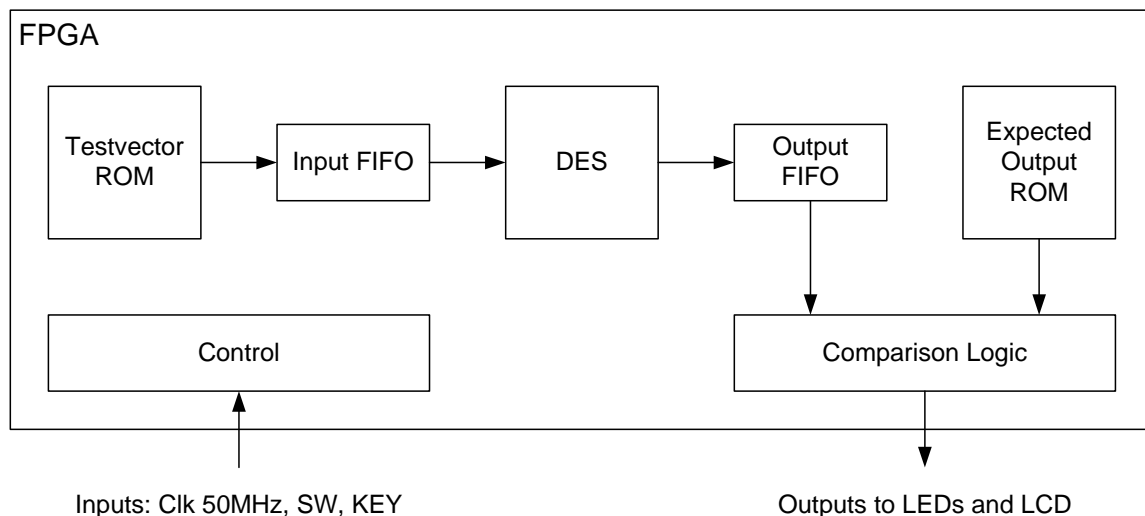

Figure 6: Testbed Block Diagram.
2. Include all of the testbed files in a new Quartus project directory. We will provide you with a template that includes some of the testbed components and you will be required to create the rest to complete the block diagram shown in Figure 6.